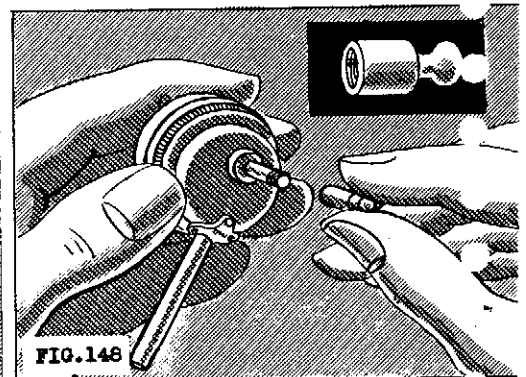

FIG. 148
11. Attach a small, ball-type contact point to the end of the indicator contact spindle. This point is simply screwed onto the end of the contact spindle, and, when necessary, can be removed quite easily (Fig. 148).